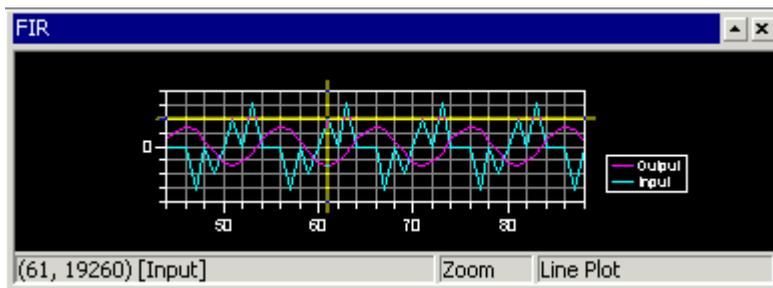

Figure 2-31. Plot Window: Using the Data Cursor Feature
3. Right-click inside the plot window and choose **Data Cursor** from the popup menu. Move to each data point in the current data set by pressing and holding the Left ( $\leftarrow$ ) or Right ( $\rightarrow$ ) arrow key on the keyboard. To switch data sets, press the Up ( $\uparrow$ ) or Down ( $\downarrow$ ) arrow key. The value of the current data point appears in the lower-left corner of the plot window, as shown in Figure 2-31.